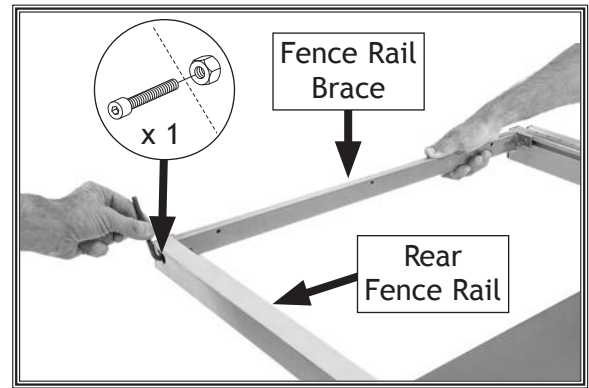

Figure 30. Attaching rear end of fence rail brace.
- 28. Using a helper, mount fence rail brace to rear fence rail with (1) M8-1.25 x 16 cap screw and (1) M8-1.25 hex nut (see Figure 30).